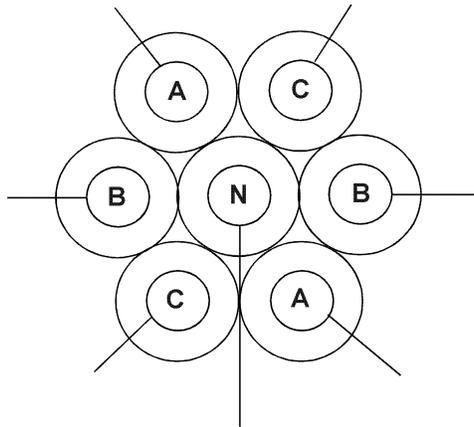

Figure 20-1. Wire Bundle Configuration
20.2.1.1 Assemble the wires in a 6 around 1 configuration, as shown in figure 20-1.